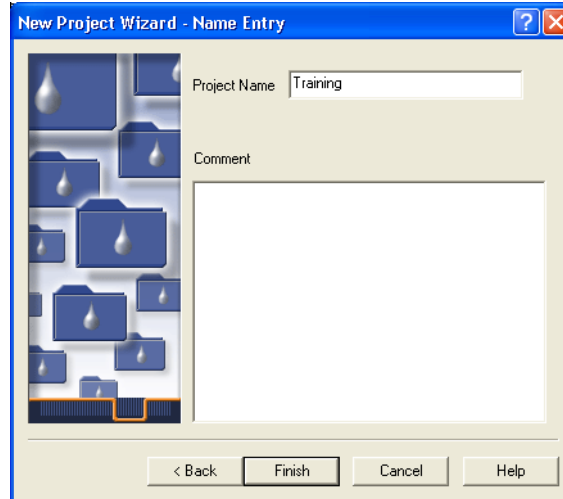

Figure 3-14 New Project Wizard–Name Entry Page
7. If an existing project contains customizing elements (such as view filters, custom fields, or method settings) that you would like to copy to this new project, select the appropriate check boxes, then select the existing project's name in the From Project list to import the desired customizing elements. Click **Next**. The Name Entry page appears (Figure 3-14).
8. Enter the desired name in the Project Name field (Figure 3-14).